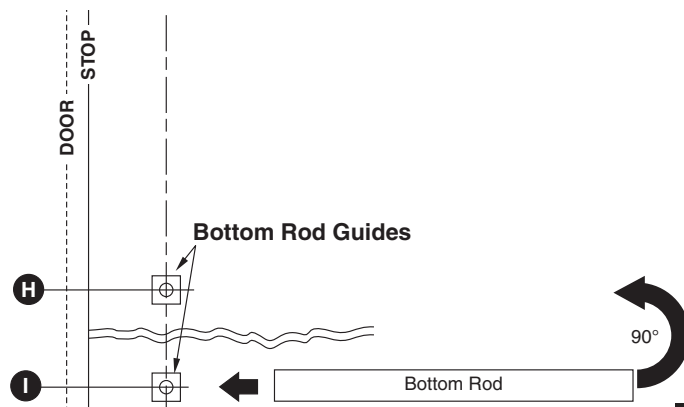

Figure 10
2. Slip bottom rod over guide and rotate to vertical position, sliding rod up over guide “H”. (Figure 10)